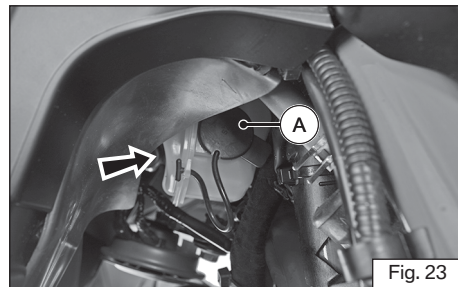

Fig. 23
A coolant reservoir tank (A) is fitted on the right side of the motorcycle below the side panels (ref. Fig. 23).